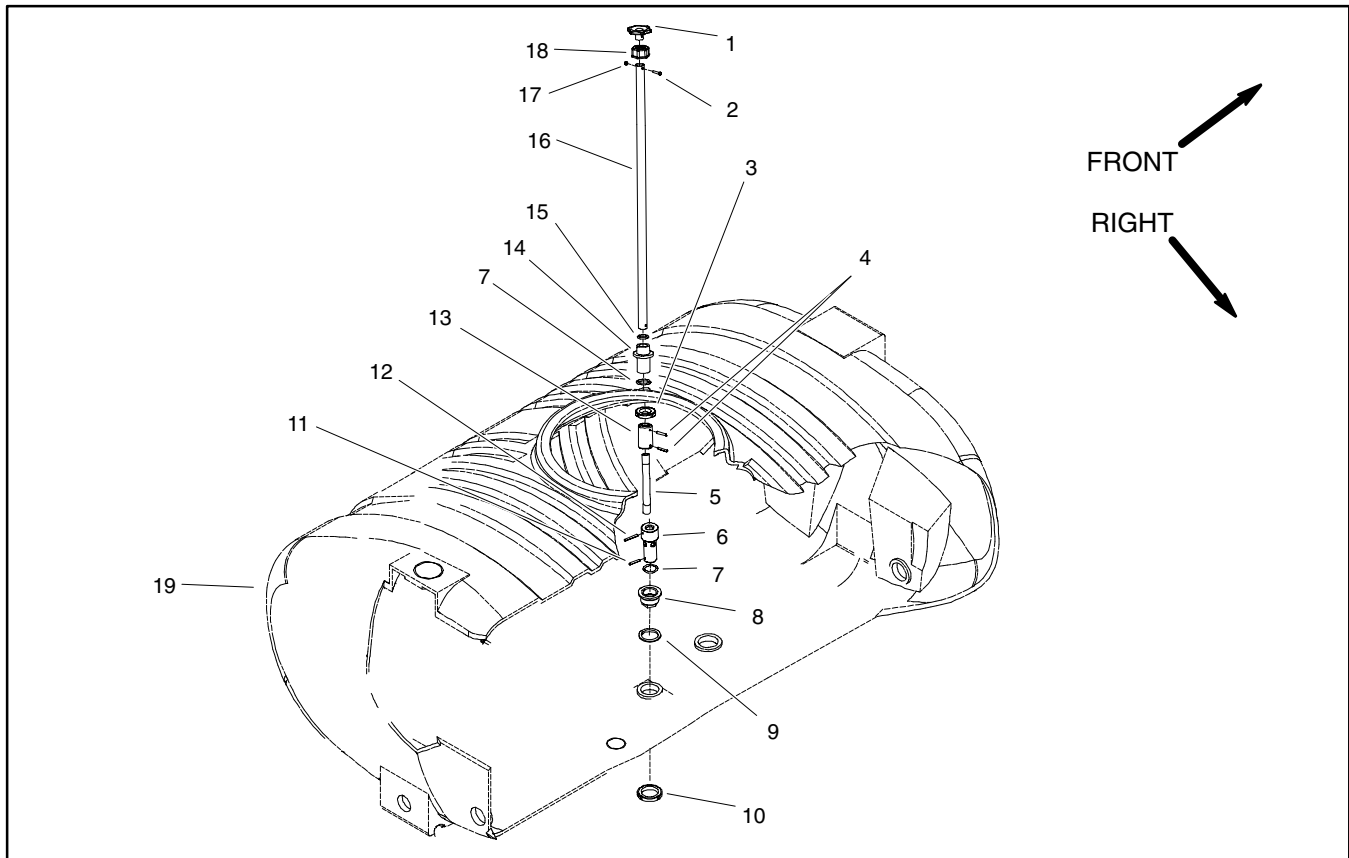

Figure 32
Disassembly (Fig. 32)
5. Raise tank lid and remove strainer basket to gain access to ringnut (item 7) that secures bulkhead (item 14) to tank. Loosen and remove ringnut from bulkhead. Slide bulkhead from drain tube.
6. Loosen and remove ringnut (item 10) that secures bulkhead fitting (item 8) to bottom of tank.
7. Lift drain tube until bulkhead fitting (item 8) clears bottom of tank. Lower drain tube assembly into tank and remove tube assembly through tank lid opening.
8. Disassemble drain tube using Figure 32 as a guide. Discard all removed o-rings and gaskets.
Assembly (Fig. 32)
1. Assemble drain tube using Figure 32 as a guide. Replace all removed o-rings and gaskets.
3. Raise tank lid and remove strainer basket to gain access to chain (item 7) that connects drain handle (item 1) to plunger in drain assembly (item 8). Disconnect chain from drain handle.
4. If necessary, remove drain handle and bulkhead from tank using Figure 32 as a guide.
1. Assemble drain tube using Figures 32 and 35 as guides. Replace all removed o-rings and gaskets.